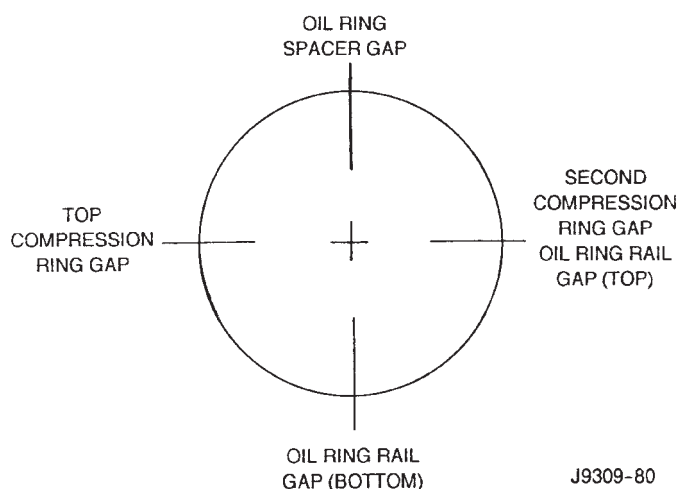

Fig. 14 Proper Ring Installation
(3) Arrange ring gaps 90° apart as shown in Fig. 14.
(1) Be sure that compression ring gaps are staggered so that neither is in-line with oil ring rail gap.
(2) Before installing the ring compressor, make sure the oil ring expander ends are butted and the rail gaps located properly (Fig. 14).
(3) Immerse the piston head and rings in clean engine oil. Slide Piston Ring Compressor Tool C-385 over the piston and tighten with the special wrench (part of Tool C-385). **Be sure position of rings does not change during this operation.**
(4) Install connecting rod bolt protectors on rod bolts, the long protector should be installed on the numbered side of the connecting rod.
(5) Rotate crankshaft so that the connecting rod journal is on the center of the cylinder bore. Be sure connecting rod and cylinder bore number are the same. Insert rod and piston into cylinder bore and guide rod over the crankshaft journal.
(6) Tap the piston down in cylinder bore, using a hammer handle. At the same time, guide connecting rod into position on crankshaft journal.
(7) The notch or groove on top of piston must be pointing toward front of engine. The larger chamfer of the connecting rod bore must be installed toward crankshaft journal fillet.
(8) Install rod caps. Be sure connecting rod, connecting rod cap and cylinder bore number are the same. Install nuts on cleaned and oiled rod bolts and tighten nuts to 61 N•m (45 ft. lbs.) torque.
(9) Install the oil pan.
(10) Install the cylinder head.
(11) Install the engine into the vehicle.